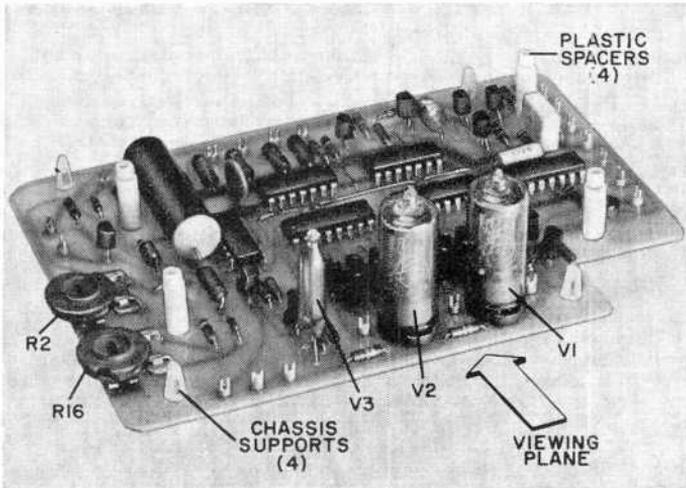

Fig. 9. Two sets of spacers are used. One set mounts the board to the chassis while the other supports power supply PC board.
**Assembly.** Four plastic spacers are used to mount the power supply module over the counter module (see Fig. 9). The spacers